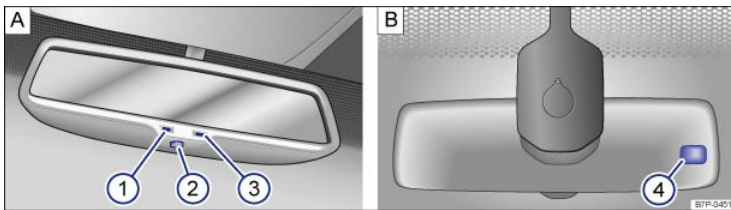

Fig. 94 Auto-dimming inside mirror (if applicable).
**Key to ⇒ Fig. 94 :**
- ① Indicator light
- ② Switch
- ③ Sensor for recognizing entry of light from rear
- ④ Sensor for recognizing entry of light from front
The auto-dimming feature can be switched on and off with the switch on the inside mirror ⇒ Fig. 94②. When auto-dimming is activated, the indicator light ① is on